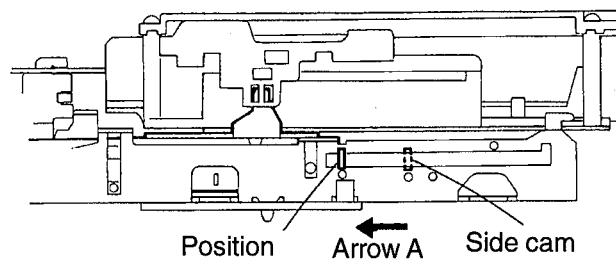

Fig.1
**Caution 2:** In the case of removing the mechanism when this system has been set to the [PLAY] mode, the slide cam L on the left side of the CD traverse mechanism should be moved in the arrow A direction and positioned to A. Under this condition, the CD traverse mechanism will be lowered to the position as shown in Fig.1).